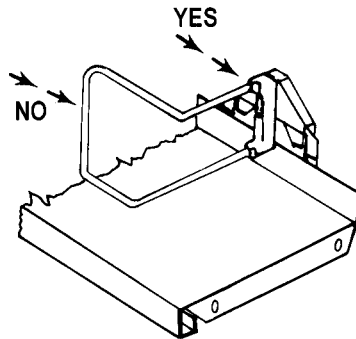

FIGURE 39B
2. **DO NOT** attempt to move sliding support by grasping wire. The support is designed to lock in place when force is applied to the wire. **DO** grip support by the plastic slider block to move it in either direction. See Figure 39B.